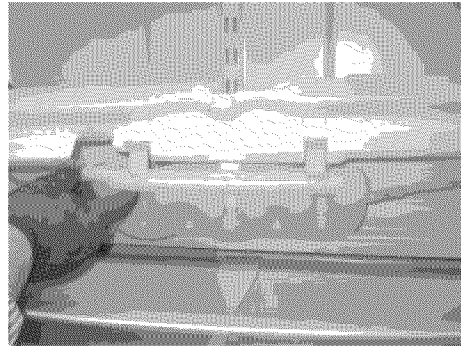

Figure 6
7. Tip the water tank forward and push it onto the EPS Foam Block as shown in *Figure 6*.